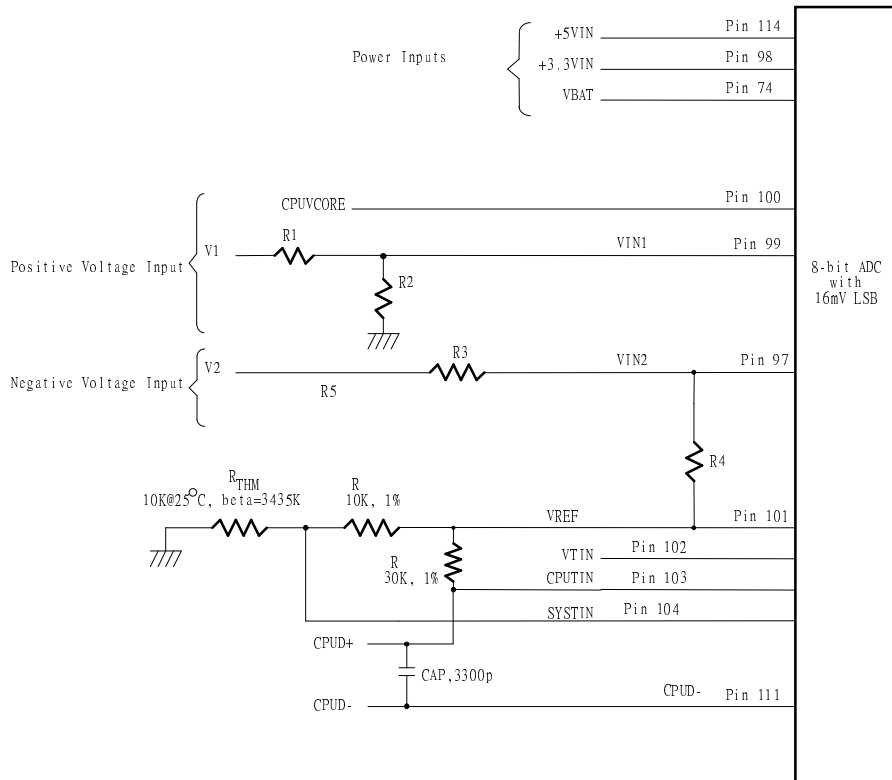

Figure. 6.2
The maximum input voltage of the analog pin is 4.096V because the 8-bit ADC has a 16mv LSB. Really, the application of the PC monitoring would most often be connected to power suppliers. The CPU V-core voltage, +3.3V, battery(pin 74) can directly connected to these analog inputs. The +12V voltage inputs should be reduced a factor with external resistors so as to obtain the input range. As Figure 6.2 shows.
The W83637HF can connect three thermistors to measure three different environment temperature. The specification of thermistor should be considered to (1)  $\beta$  value is 3435K, (2) resistor value is 10K ohms at 25°C. In the Figure 6.2, the thermistor is connected by a serial resistor with 10K Ohms, then connect to VREF (Pin 101).